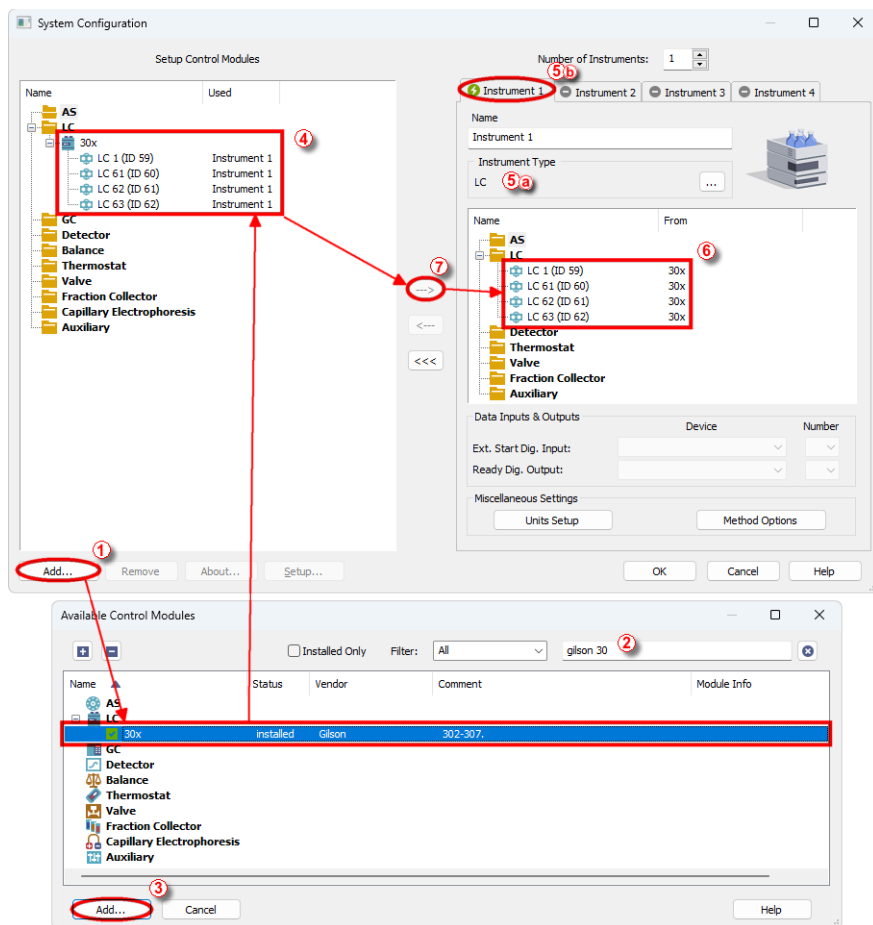

Fig. 4: How to add Gilson 30X
- Press the **Add** button ① (see Fig. 4 on pg. 5.) to invoke the **Available Control Modules** dialog.
- You can specify the searching filter ② to simplify the finding of the driver.
- Select the **30x** pump and press the **Add** ③ button.